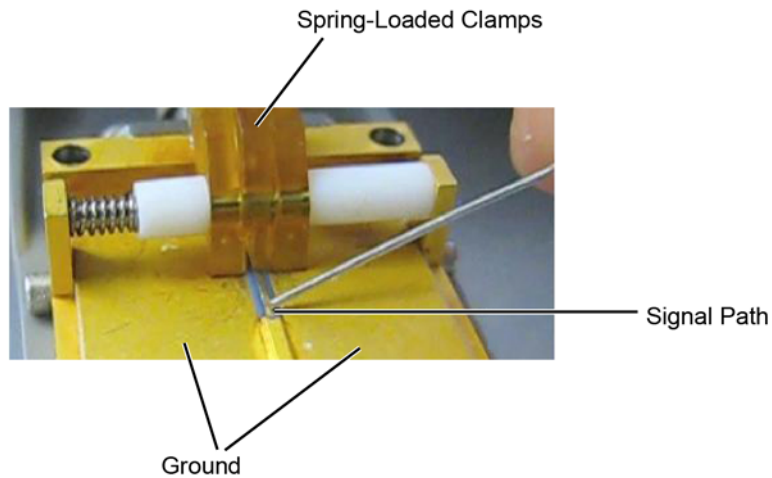

Figure 78 Closeup of Fixture's Signal Path, Ground, and Clamps
- h While pressing down on the N5443A fixture's spring-loaded clamps, insert the probe wires beneath the clamps. The N5443A's clamps, ground, and signal path are identified in **Figure 78**.